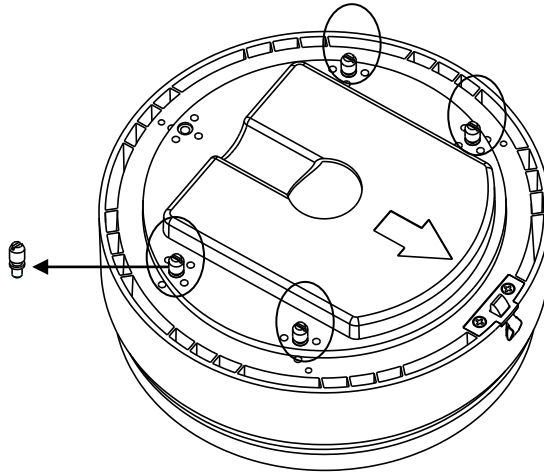

Figure 2-24 Install the bolts
- 3) Install 4 bolts to the screw holes as shown in Figure 2-24.